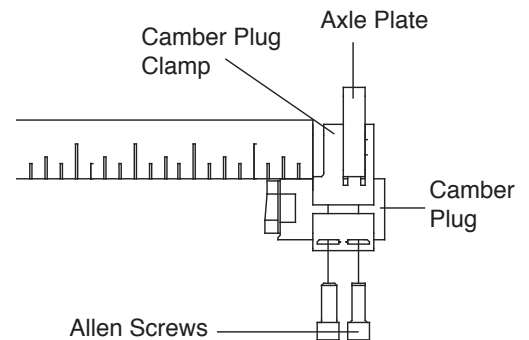

Figure 48
5. The amount of the camber plug that extends outside of the camber plug clamp affects the rear wheel spacing. The less of the camber plug that extends outside the camber plug clamp, the narrower the rear wheel spacing. The more of the camber plug that extends outside the camber plug clamp, the wider the rear wheel spacing. However, the distance from the camber plug clamp to the end of the camber plug should never exceed 1". Make sure the distance from the outside edge of the camber clamp to the end of the camber plug is identical on each side of the chair. **Note:** If your desired rear wheel width would require that more than 1" of the camber plug extends beyond the camber plug clamp, consider repositioning the camber plug clamp to the outside of the adjustable axle plate. See Figure 48.